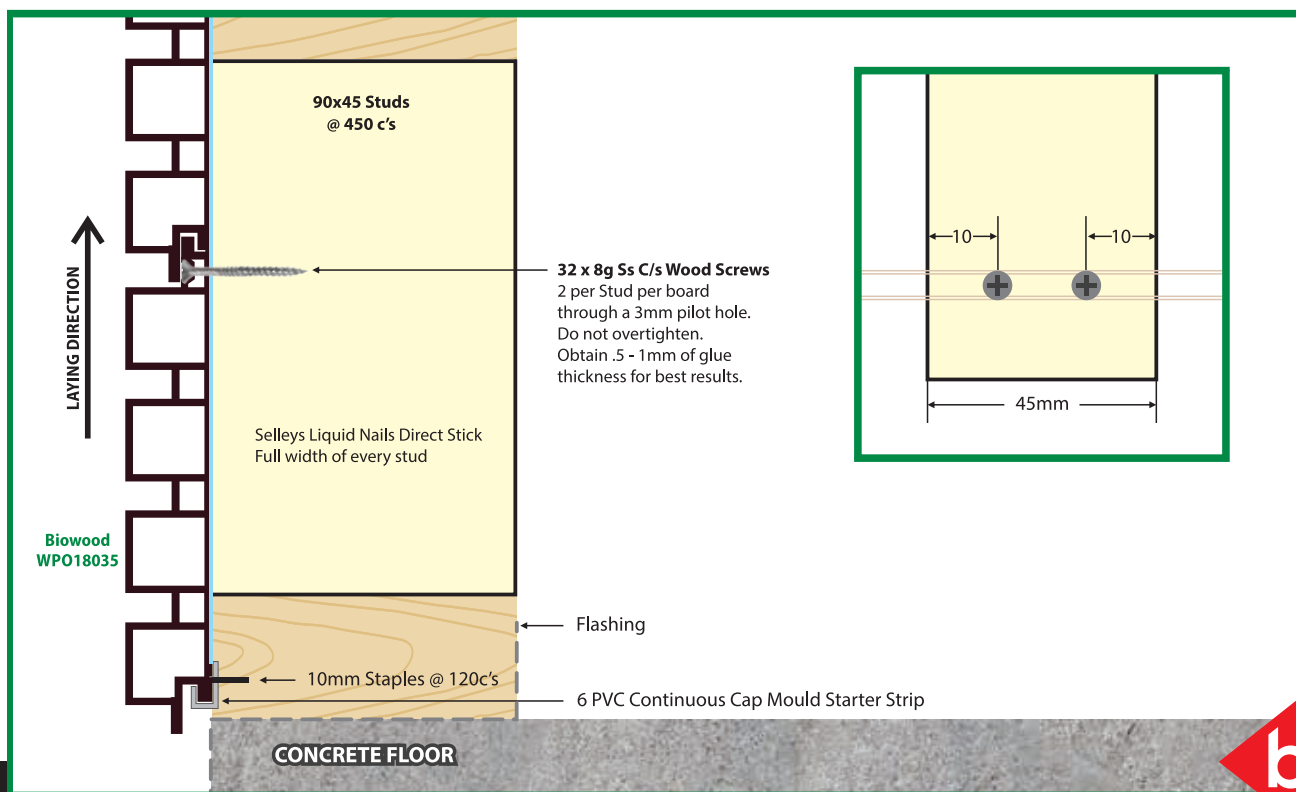

Fig: 5.1
- Position the base of the starter strip 11mm above the bottom of the first board. (see Fig 5.1)